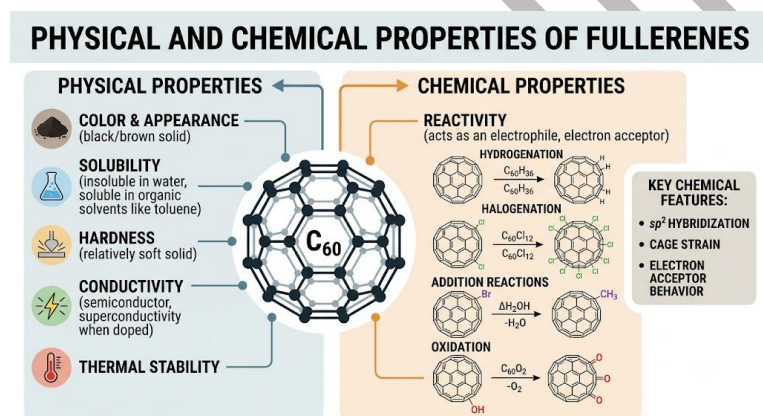

Figure 2.4 Physical and chemical properties of fullerenes.
- Figure 2.4 Fullerene properties (OER diagram).